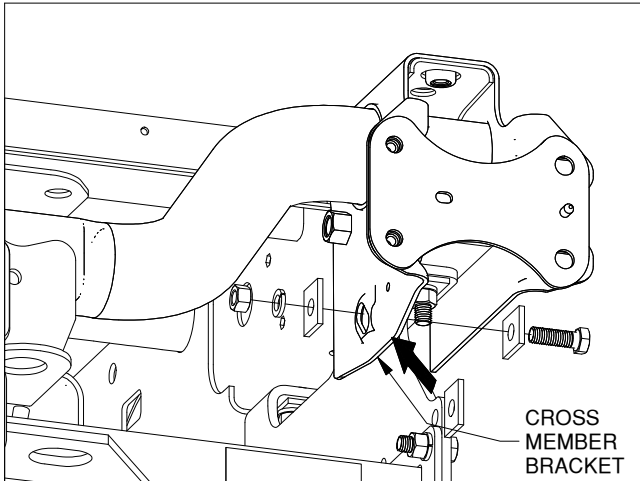

Figure C2: View looking at passenger side of frame looking towards the cab. (Bumper and bed not shown)
2. **Secure sideplates:** Attach the side plates to the frame cross member brackets with 1/2" X 1-1/2" long cap screws, 3/16" X 1-1/4" X 1-1/2" spacers, lock washers and finish nuts as shown in Figure C2. If needed install a spacer in between the side plate and the frame cross member bracket.